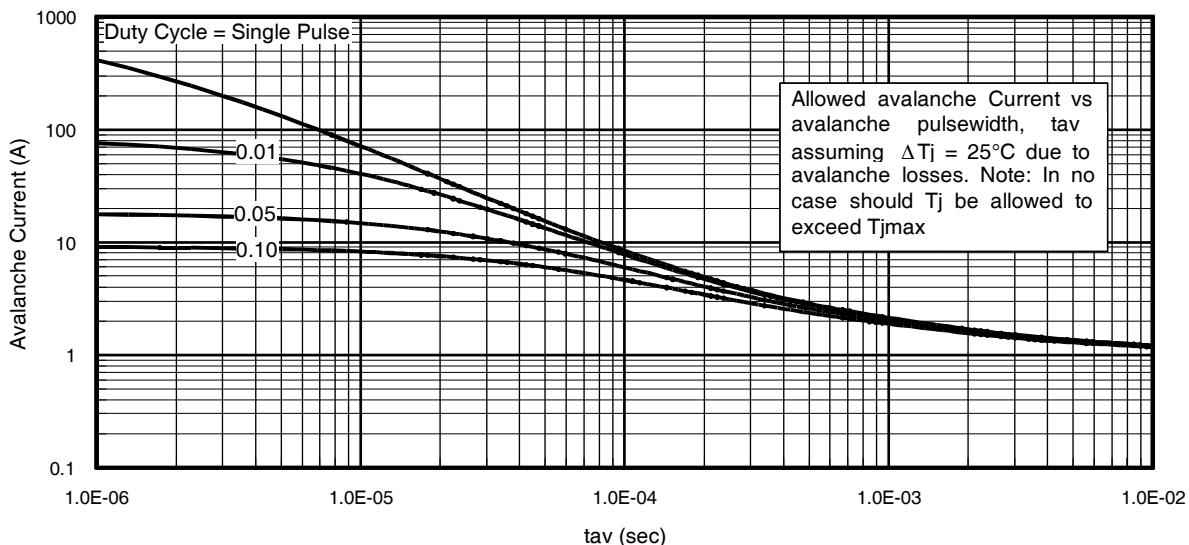

Fig 15. Typical Avalanche Current Vs.Pulsewidth
7. ΔT = Allowable rise in junction temperature, not to exceed T_{jmax} (assumed as 25°C in Figure 15, 16).